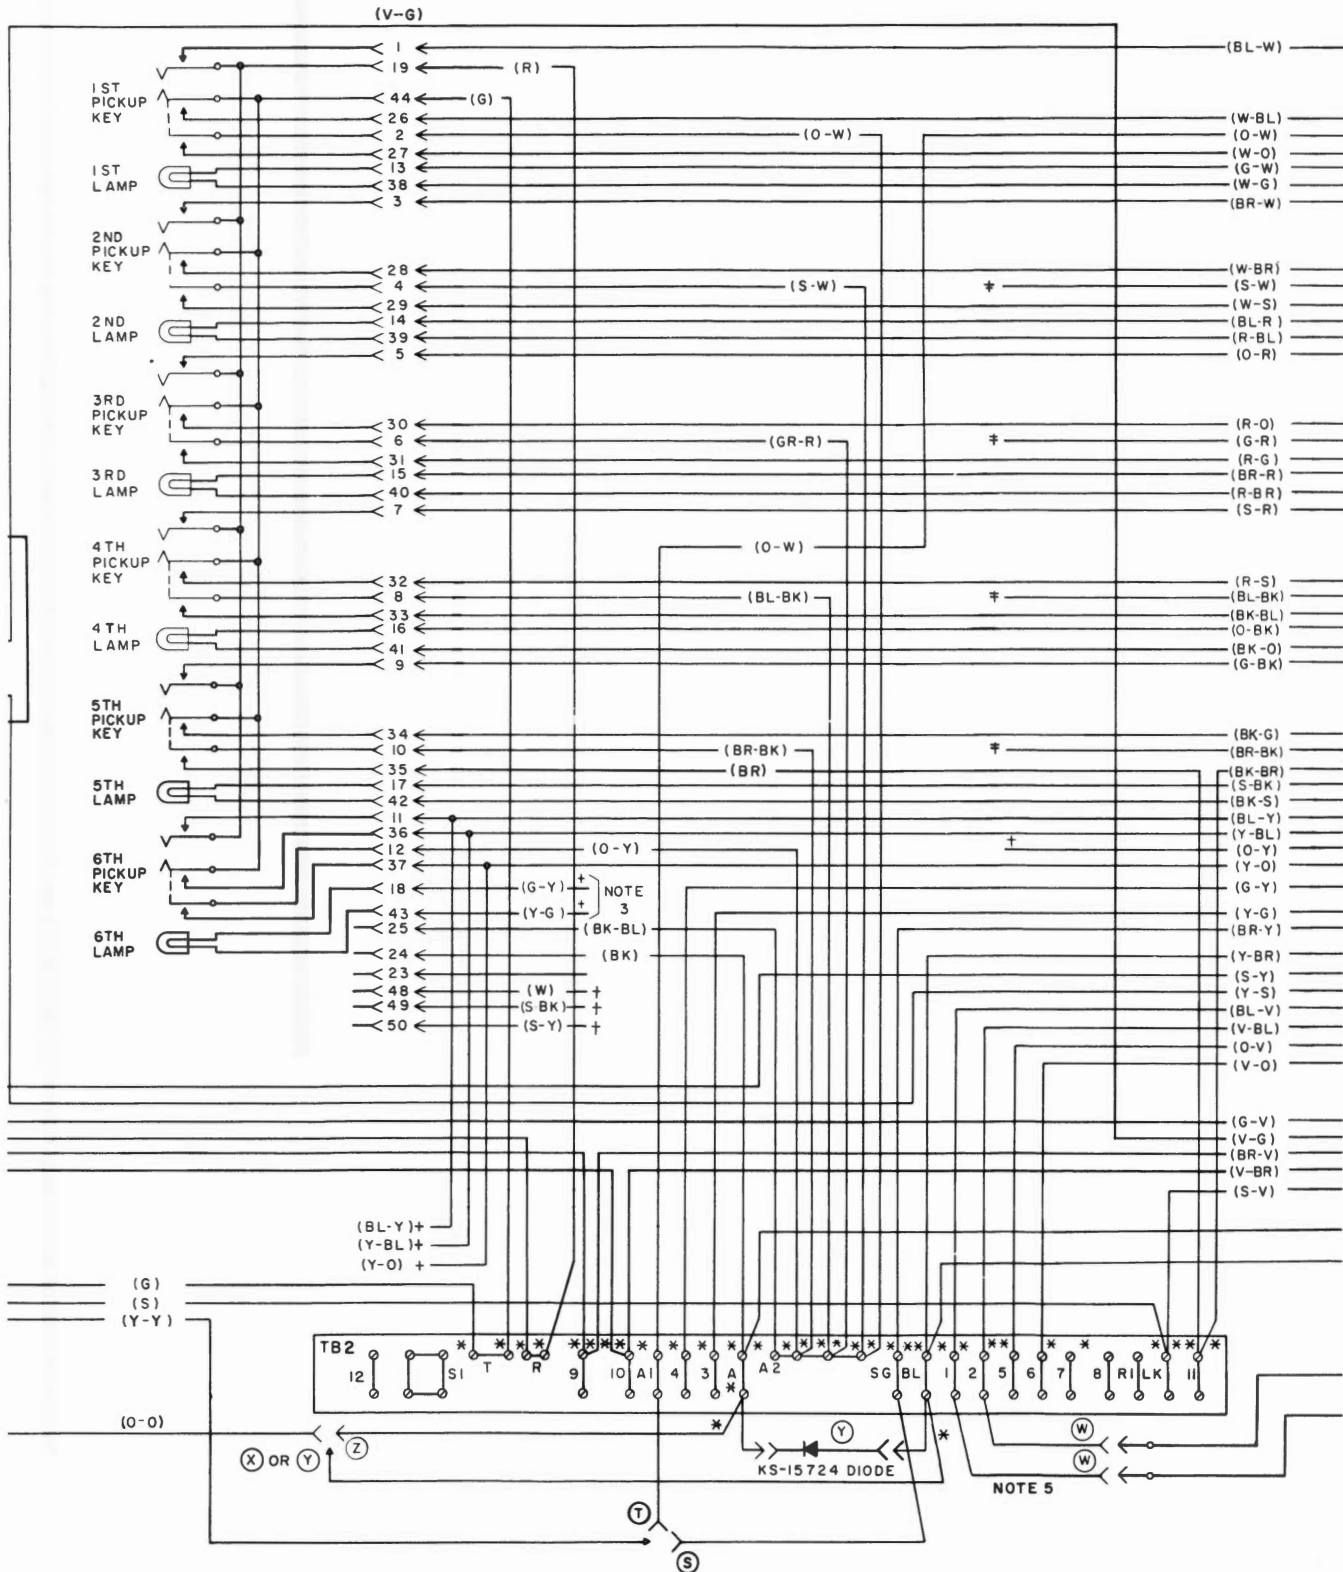

Fig. 6 - 661A2 Telephone Set with 598A Key
- Add 5th pickup key to Fig. 6.
5.02 Connections for 661A2 with 598A key are shown in Fig. 6.